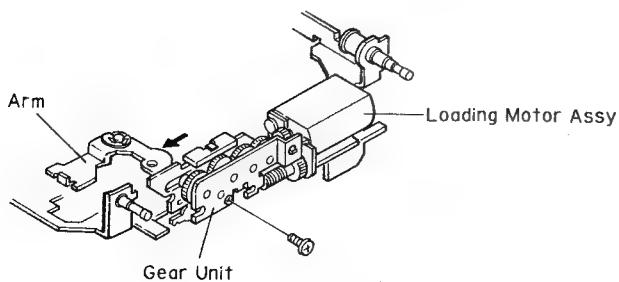

Fig.16
- 10.Turn the Loading gear to put into the ejection.(Fig.16)
- 11.Remove one of the screws and remove the gear unit pressing the arm slightly toward the arrow.(Fig.16)